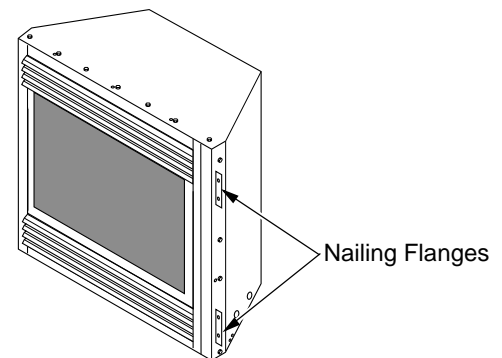

Figure 22 - Location of Nailing Flanges
7. Break off nailing flanges (see Figure 22) with hammer or pliers.